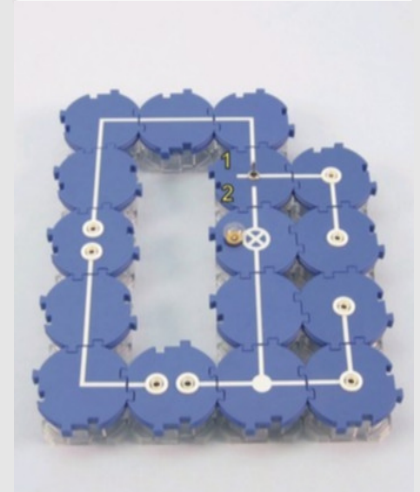

Fig. 1
- Set up the experiment as shown in Fig. 1, Fig. 2 and Fig. 3. The change-over switch is set to 1 (charging). Select the measuring range 300 mA- and 10 V-.